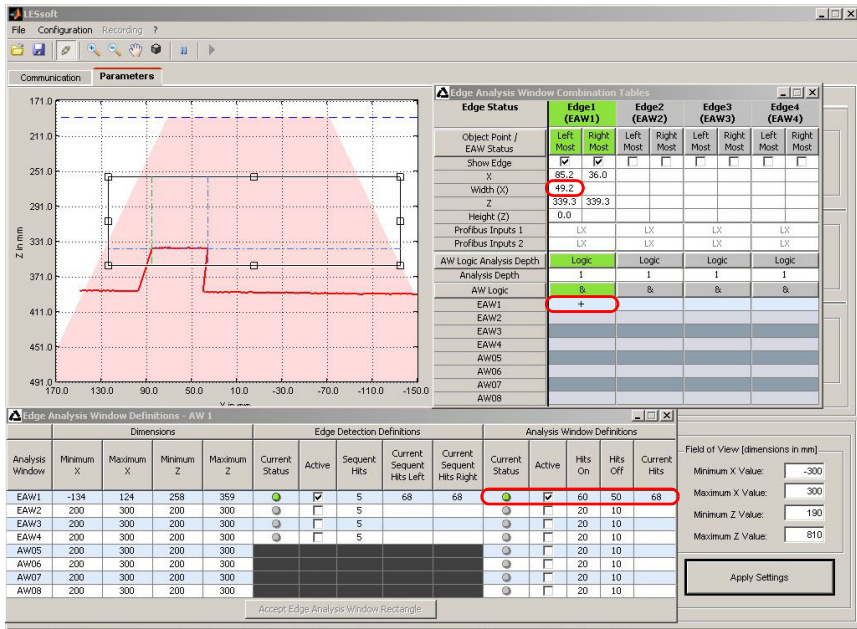

Figure 9.9: Application example 3.1: width monitoring of cubic objects with object detection
The threshold for object detection in EAW1 is 60 hits. In figure 9.9 there is a wide object with Current Hits = 68 in the measurement range of the LES. The object is detected, the state of object detection is green (ok). In the Edge Analysis Window Combination Tables window, the additional object detection is activated by selecting + under EAW1. All results are green (ok). The ascertained width of the carton is 49.2mm (column Edge1 -> line width (X)).